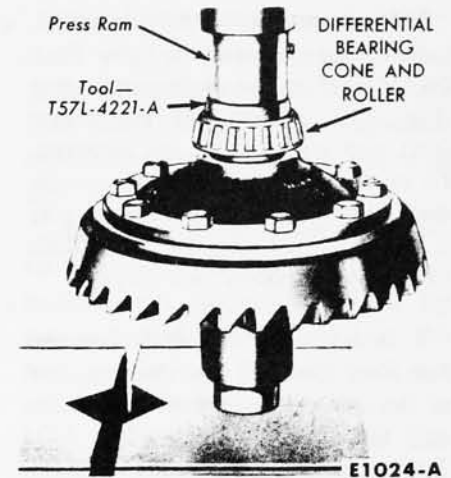

FIG. 24—Differential Bearing Installation
11. If the differential bearings have been removed, press them on as shown in Fig. 24.